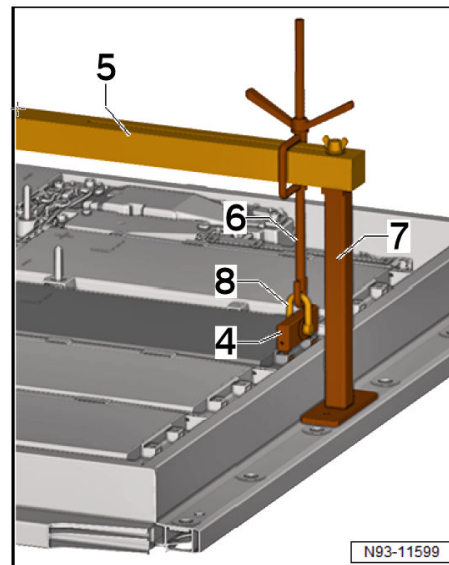

Figure 3: Attaching the support bracket to the battery module
3. Position the cross beam (5) above the center of the battery module.
4. Hook the shackle (8) into the hole in the bushing (3) of the battery module adapter on one side of the battery module (see Figure 3).
5. Turn the toggle nut on the fixture (6) slowly and carefully. This will release the battery module from the thermal compound paste.